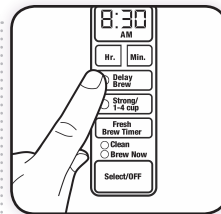

Figure 7
- 2 Press the Delay Brew button again to accept the time. The Delay Brew indicator light will remain lit. The coffeemaker is now set to automatically brew coffee at the preset later time. (Figure 7)